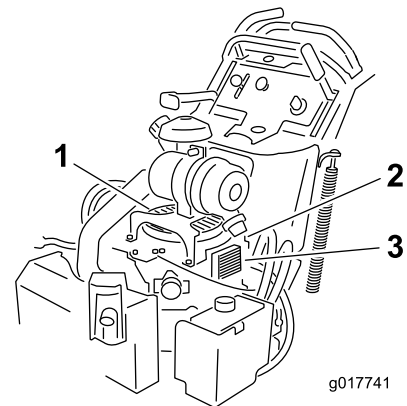

Figure 67
3. Remove the air intake screen and fan housing (Figure 67).
5. Install air intake screen, recoil starter and fan housing (Figure 67).
2. Remove the bolts holding the oil cooler to the engine housing (Figure 67).